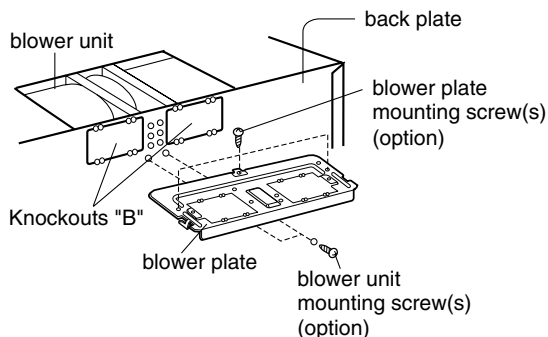

Figure 12
1. Remove blower unit mounting screw(s) and blower plate screw(s). Remove the blower plate from cabinet. See **Figure 12**.